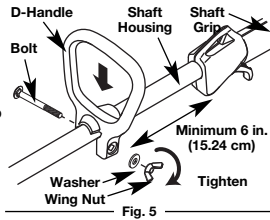

Fig. 5
1. Push the D-handle down onto the shaft housing and push it on the boom (Fig. 5). The squared bolt hole in the handle is to the right.